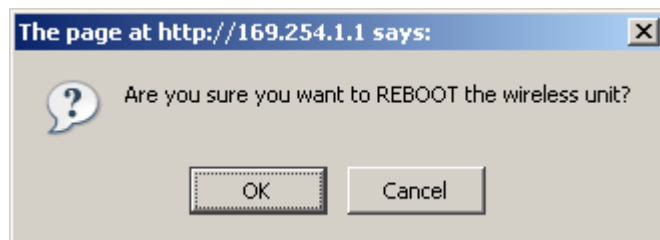

Figure 163 - Configuration Reboot Screen
6. Reboot both ends of the link Figure 163. The software is designed to allow five seconds so that a user can command both ends of the link to reboot before the wireless link drops.